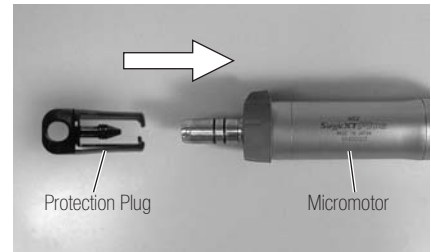

Fig. 23
- Attach the Protection Plug to the Micromotor. (Fig. 23)